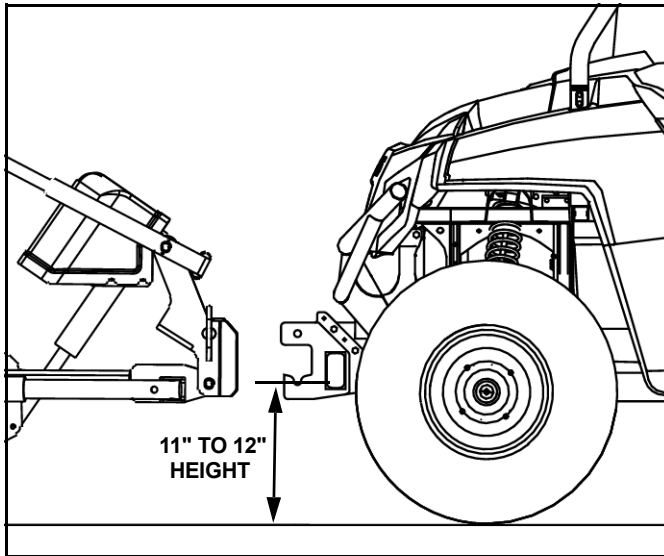

Figure 10
- Align the UTV Mount (#1) with the holes in the Mounting Weldment (#2). Adjust the UTV Mount (#1) so that the center of the bottom slot is 11-12" off of the ground. (See Figure 10.)